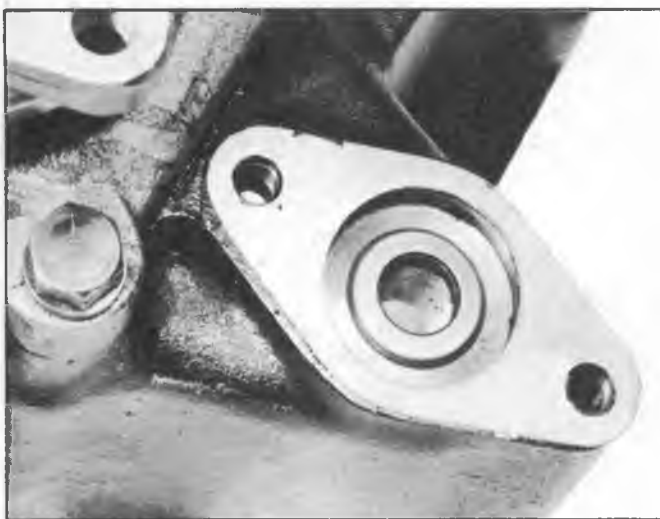

Fig. 14M--Push Rod Oil Seal Installed
- a. When installing bushing at clutch teeth end of gear, place side of tool marked "CLUTCH" against Tool J-8474-2 as shown in Figure 14M.